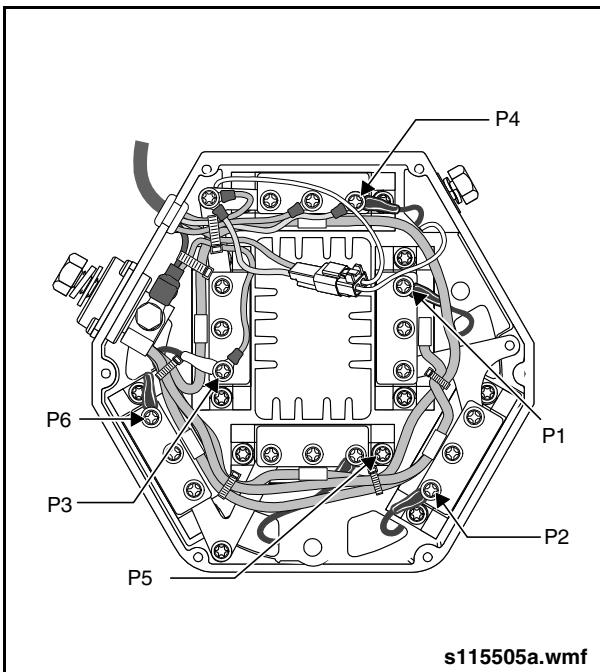

Fig. 9-12: Phase Lead Connections
3. Disconnect phase leads. See "Fig. 9-12: Phase Lead Connections" on page 21.